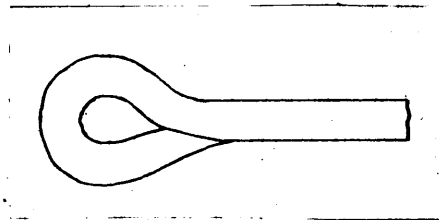

Figure 7.
3. Bend the ends in the form of an eye and weld. (Figure 7).